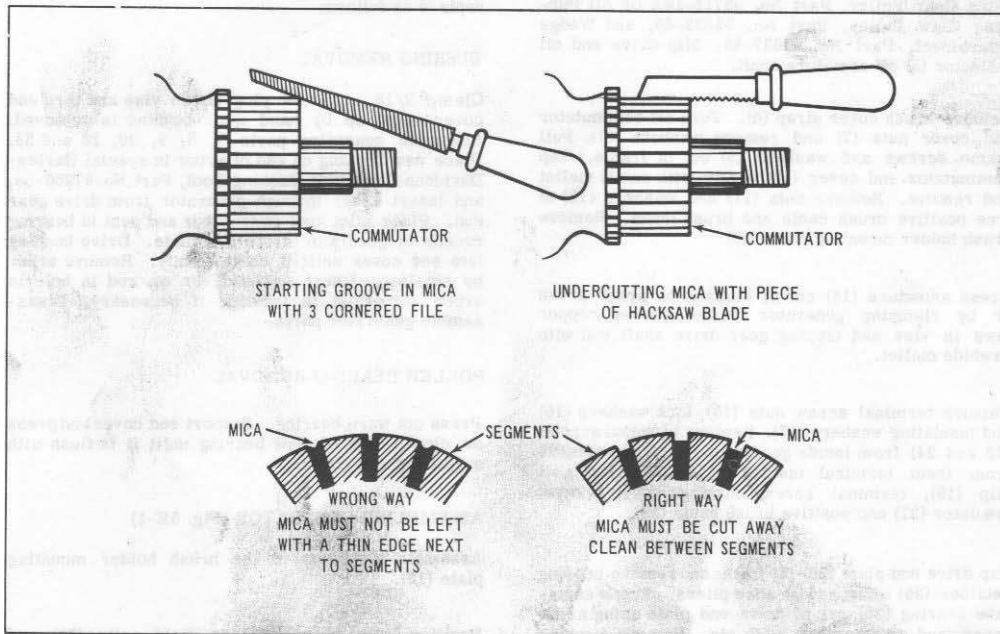

Figure 5E-6. Recessing Mica Separators
**DISASSEMBLING GENERATOR (Fig. 5E-1)**